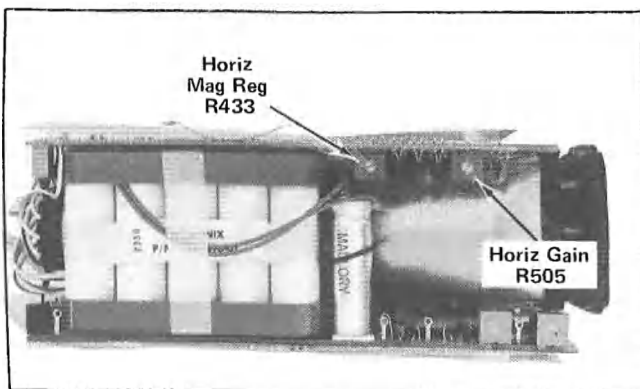

Fig. 5-8. Location of Horizontal Gain and Magnifier Registration adjustments.
- Adjust Horizontal Gain adjustment R505 for a five-division display. See Fig. 5-8.
- Adjust the Mag Regis adjustment R433 for less than one division shift from the 1X to the 10X position. See Fig. 5-8.